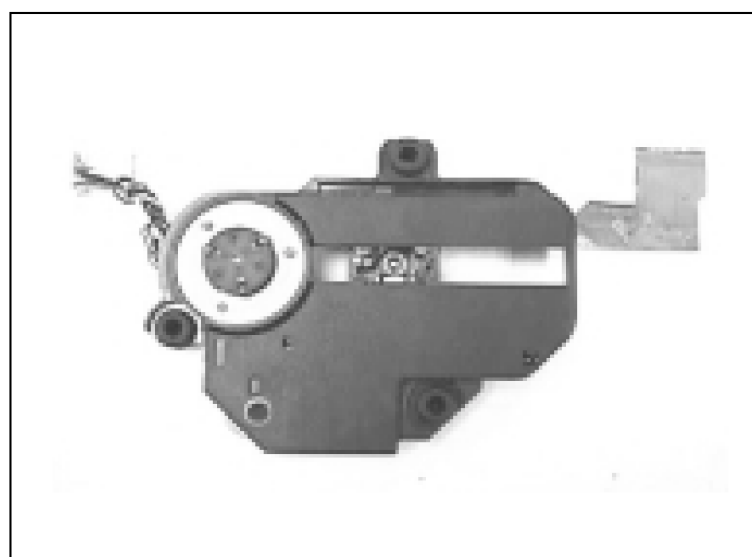

Fig. 4
- Remove the CD Mechanism. (Fig. 4)
- Remove the CD Mechanism.(Fig. 4)
- Remove the CD MECHANISM (Fig. 4)